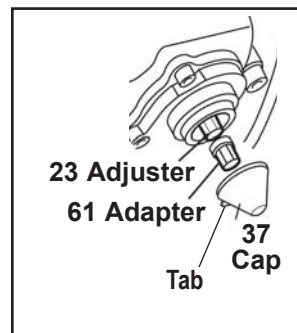

FIGURE 25 - EXPLODED VIEW OF ADJUSTER AND ADAPTER
Although exploded view (Figure 25) shows the adjuster (23) and shear adapter (61) separated, only turn the adjuster with the shear adapter installed on the adjuster. Using a box-end wrench or socket, turn the Shear Adapter (61) **counter-clockwise** and listen for the sound of 2 or 3 clicks as the mechanism increases the running clearance. Note: Do not use an open-ended wrench as this may damage the adapter.
**CAUTION:** Never turn the adjuster (23) without the shear adapter (61) installed. The shear adapter is a safety feature and is designed to prevent an excess of torque being applied to the adjuster. The shear adapter will fail (by breaking loose) if too much torque is applied.